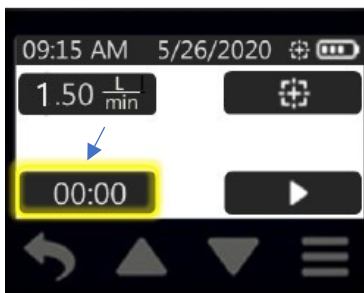

Figure 18. Time Button
3. Touch Time button (00:00) in Flow Menu to set sample duration (Figure 18).